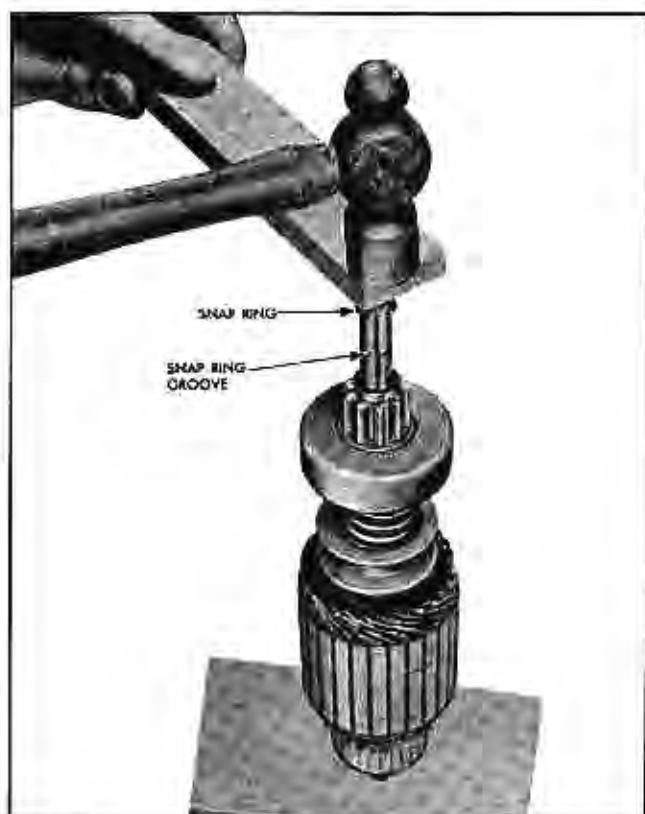

Fig. 11-49 Forcing Snap Ring Onto Armature Shaft
d. Stand armature on end on wood surface with commutator down. Position snap ring on upper end of shaft and hold in place with a block of wood. Hit wood block a blow with hammer forcing snap ring over end of shaft. Slide snap ring down into groove (Fig. 11-49).